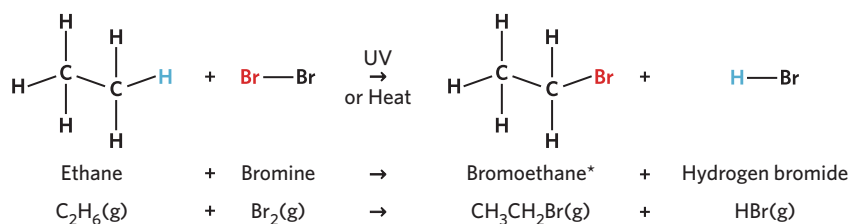

Figure 1 A possible substitution reaction involving ethane and bromine to form bromoethane
Saturated hydrocarbons (alkanes) can undergo substitution reactions with halogens like chlorine and bromine to form a mixture of haloalkanes. These reactions require ultraviolet light (UV) or heat to initiate the reaction by breaking the bonds between the diatomic halogen, such as in the substitution reaction of ethane and bromine as shown in figure 1. This is also a redox reaction as bromine is reduced ($0 \rightarrow -1$) and the carbon is oxidised ($-3 \rightarrow -2.5$).